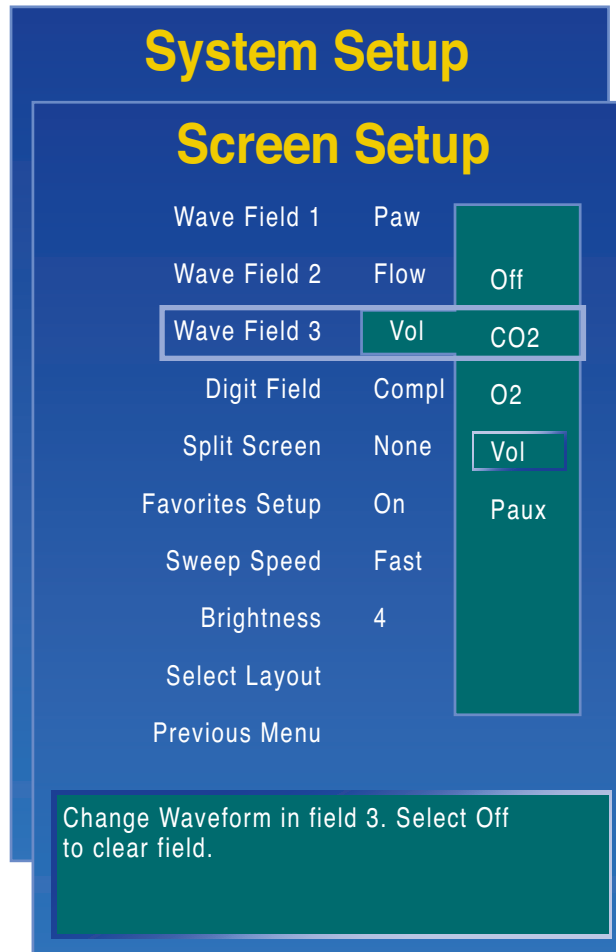

Figure 4.4 Screen Setup Menu for CO₂
- Attach a spirometry airway adapter, a spirometry line, and a gas sampling line to the breathing circuit and connect the spirometry line and the gas sampling line to the compact gas module, as shown in Figure 4.4.
Attach a spirometry airway adapter (D-lite sensor), a spirometry line, and a gas sampling line to the breathing circuit and connect the spirometry line and the gas sampling line to the compact gas module, as shown in Figure 4.4.